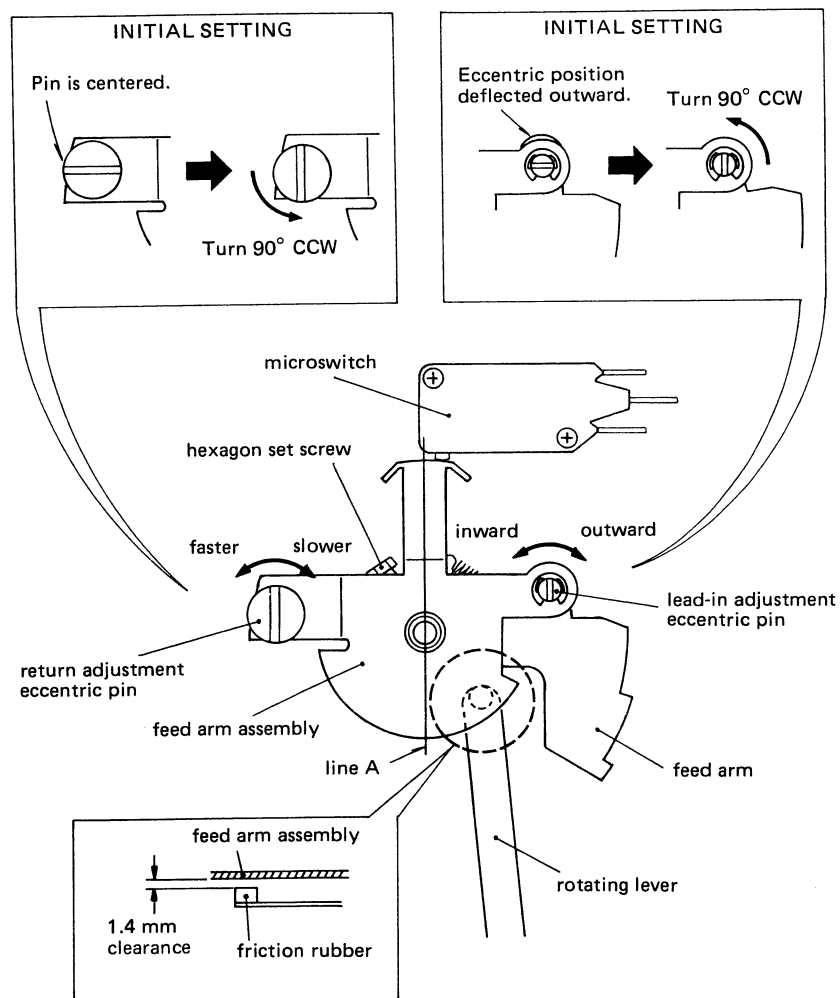

Fig. 4-7
1. Initially set the two eccentric pins as shown in the upper portion of Fig. 4-7.
3. If the tonearm is not automatically brought to the lead-in groove and lowered to begin play (for either 17 cm or 30 cm record size selection), turn the lead-in eccentric pin on the feed arm assembly until proper operation is obtained (refer to Fig. 4-7).